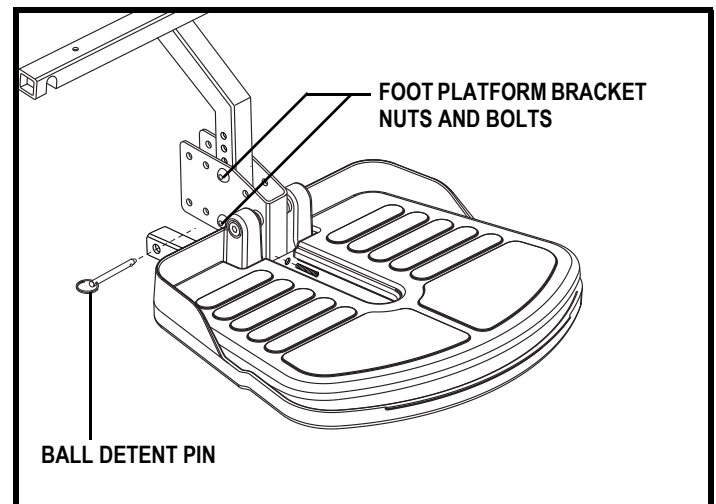

Figure 18. Foot Platform Height Adjustment
1. Remove the nuts and bolts from the foot platform bracket. See figure 18.